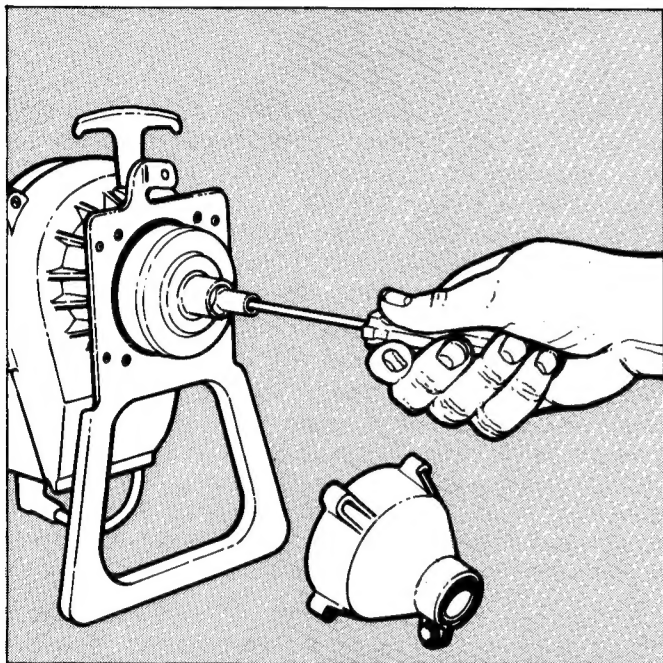

**FIGURE 6.1**
6.1 Remove the four screws from the clutch housing. Leave the loose screws inserted into the housing and set the clutch housing and engine stand aside until final re-assembly. See Figure 6.1.